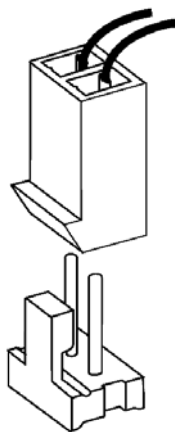

Figure 2: Battery connector
- Connect the two batteries to the sounder, taking care to observe correct polarity (see Fig. 2).